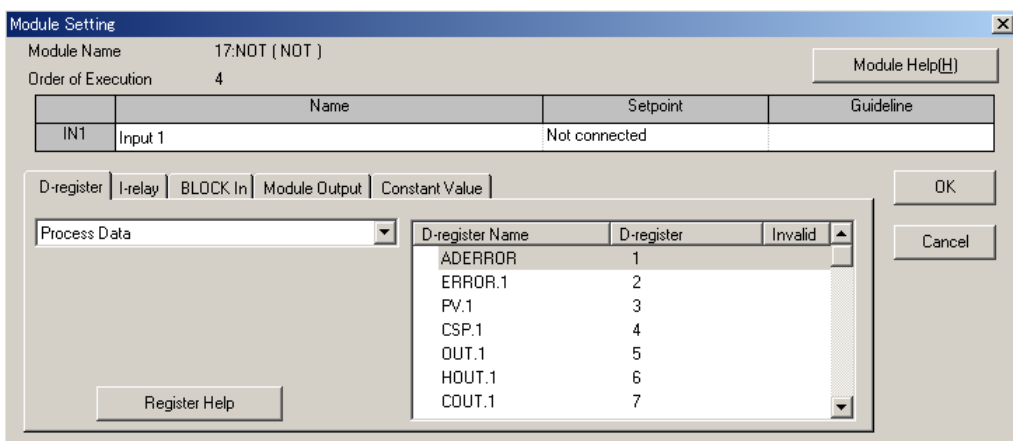

Figure 4.2.10 [Module Setting] Dialog Box
- (2) From the tool menus, choose <Edit [E]>, then <Connection [C]>. The [Module Setting] dialog box (Figure 4.2.10) appears.